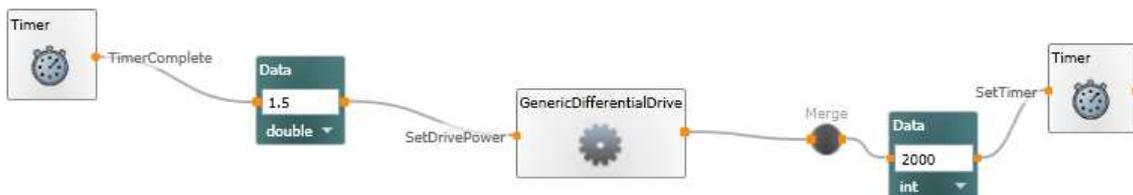

Figure 47. Diagram
7. Connect this **GenericDifferentialDrive** to the Merge you have created before in the forward diagram (Figure 47)